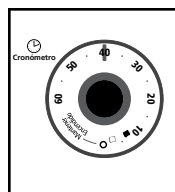

Figure 3
4. **Timer Control Knob with Bell Signal** – Set cooking time up to 60 minutes. Will automatically turn the oven off at the end of the cooking time. (See Figure 3)